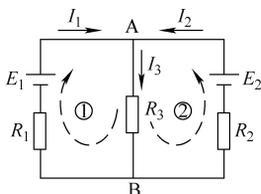

图 2-1
1. 如图 2-1 所示, $E_1 = E_2 = 17V$, $R_1 = 2\Omega$, $R_2 = 1\Omega$, $R_3 = 5\Omega$, 求各